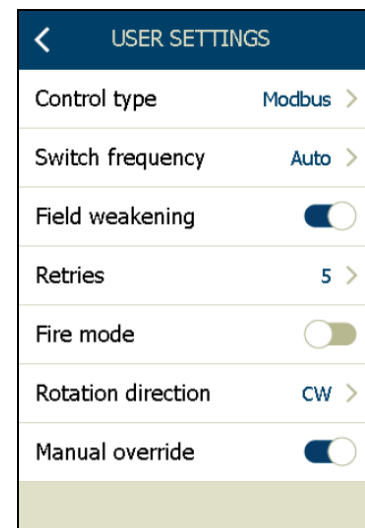

Fig. 11-17: Manual override
3. Enter the submenu "User settings". Within the user settings activate the "Man. override" option as shown in fig. 11-17.